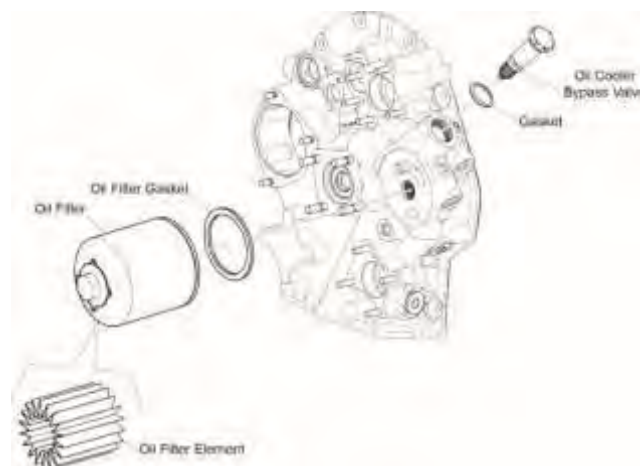

Figure 6
- C. Remove the oil filter (Figure 6) from the oil filter base.
- F. Install the new oil filter on the oil filter base as shown in Figure 6.